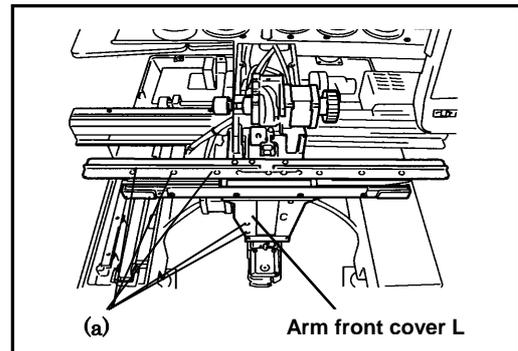

FIG.1
- (2) Remove five set screws (a) and the arm front cover L. (Fig.1)